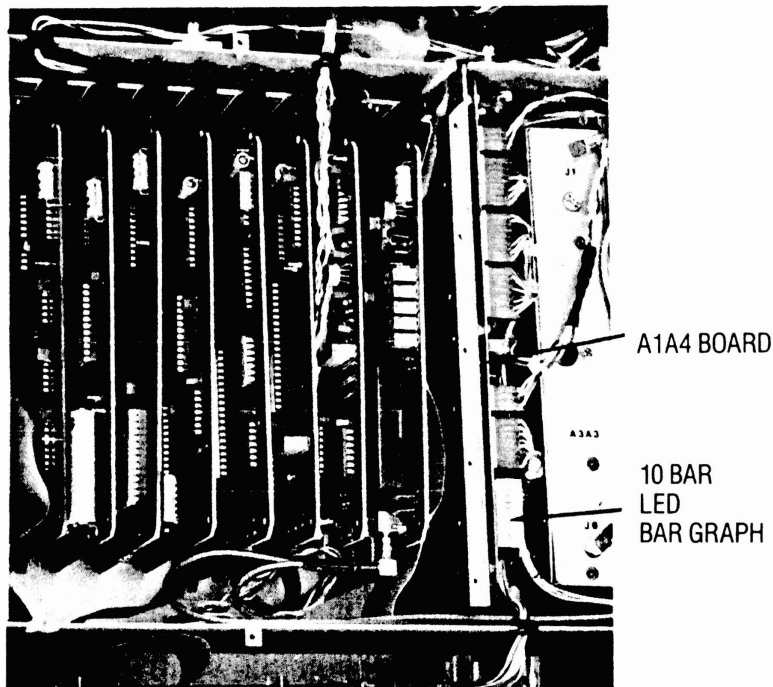

Figure 3-20. LOCATION OF BAR GRAPH OF A1A4
11. Locate the 10 bar LED bar graph on the top front edge of the Interconnect Board. See Figure 3-20. When the gain value in Window B reaches approximately 36 to 40 dB, the third light bar from the front should light.